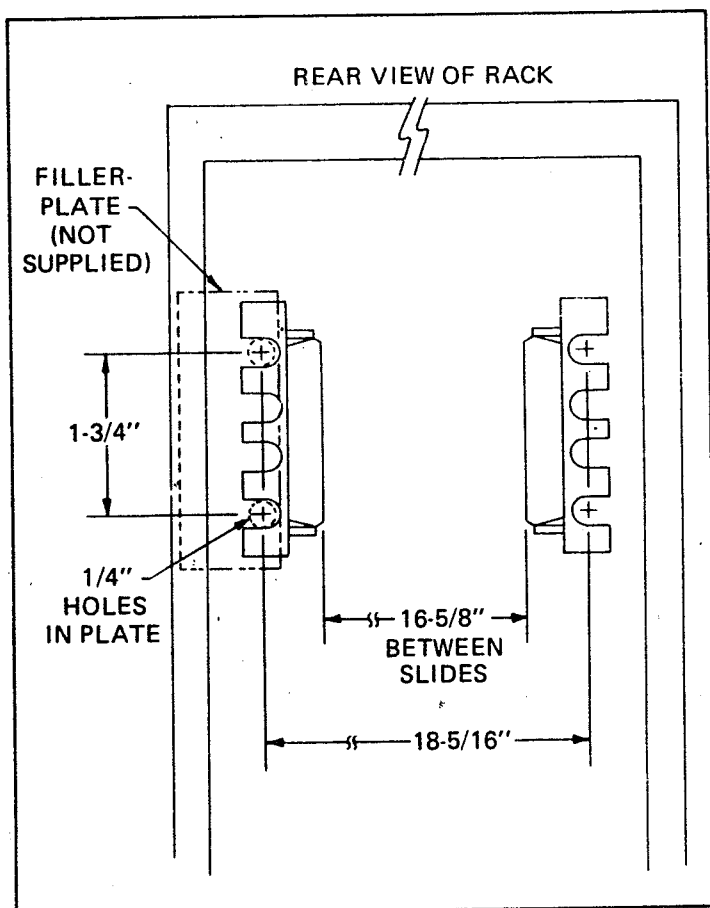

Figure 2.4 - Rear end slide-mount rack dimensions
- e. The distance between the slide-mounts at the rear bracket position must be 16-5/8 inches. If a filler-plate is required to secure the slide-mount at 16-5/8 inches employ the dimensions supplied in Fig. 2.4 for calculations.